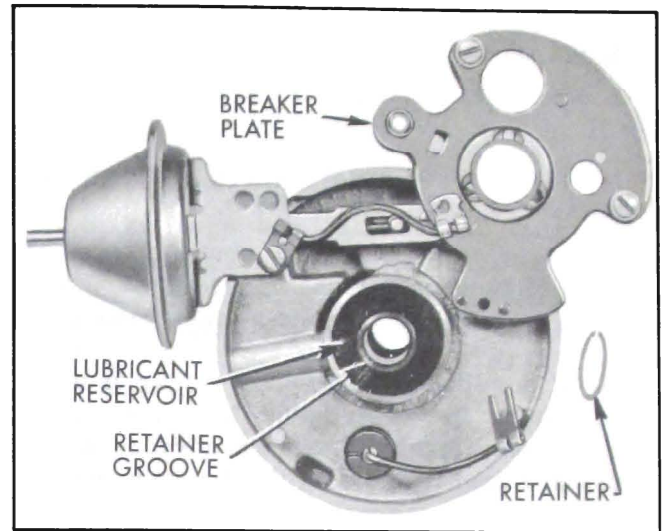

Fig. 10-37—Installing Breaker Plate and Retainer
2. Install felt washer over upper bushing and apply a few drops of light oil. Then place breaker plate over upper bushing and vacuum advance link. Install retainer on upper bushing. See Figure 10-37.